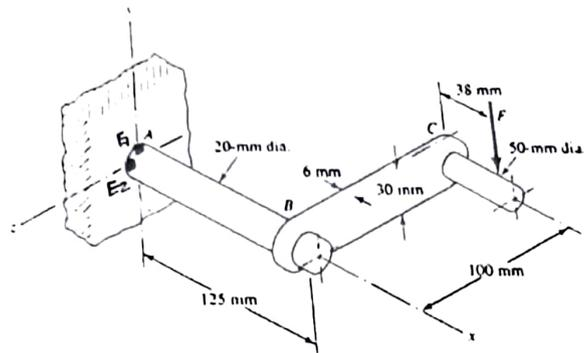

Fig.Q2
- Q2. The cylindrical post, having a diameter of 40 mm, is being pulled from the ground using a sling of negligible thickness (Fig.Q2). If the rope is subjected to a vertical force of $P = 500N$, determine the normal stress at points A and B. Show the results on a volume element located at each of these points. [10M]
Q2. Fig.Q2 shows a crank loaded by a force $F = 2 \text{ kN}$ that causes twisting and bending of a 20mm diameter shaft fixed to a support at the origin of a reference system. In actuality, the support may be an inertia that we wish to rotate, but for the purpose of stress analysis consider this as a static problem. [20M]